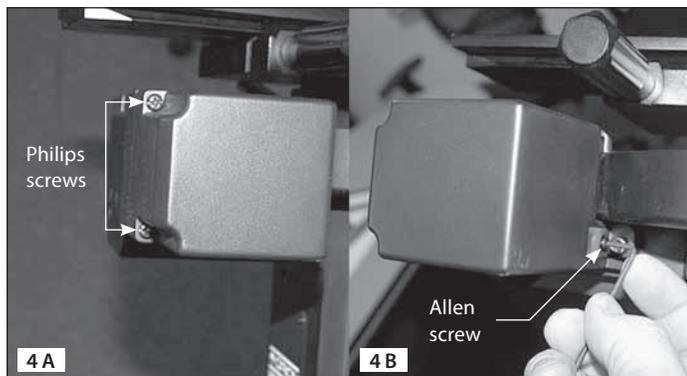

Fig. 4: Removing the Dec motor housing is done by unthreading two Philips screws (A) and one Allen screw (B).
5. Remove the plastic DEC motor housing by unscrewing the three screws shown in Fig 4, using a Philips screwdriver and a 2mm Allen key.